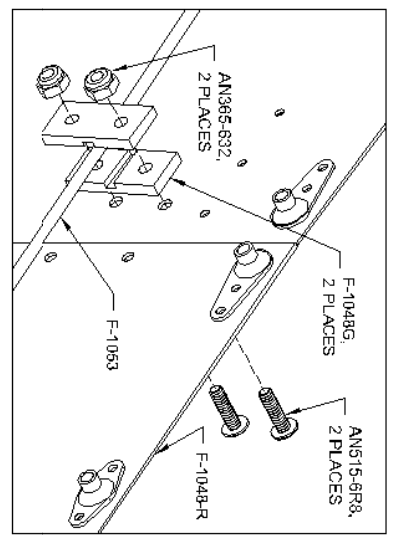

FIGURE 5: INSTALLING THE RUDDER CABLE GUIDES
Step 4: Assemble both F-1048G Rudder Cable Guides to the F-1049-R Fwd Fuselage Rib as shown in Figure 5 using the hole match-drilled in Step 2 (place the side with the centerline drawn in Step 2 against the fwd fuselage rib). Align the centerline with the center of the remaining hole in the fwd fuselage rib then match-drill #27 this hole into both rudder cable guides.
Step 6: Place the F-1053 Rudder Cable in the slot in-between the F-1048G Rudder Cable Guides and install the guides to the F-1049-R Fwd Fuselage Rib using the hardware called out in Figure 5.